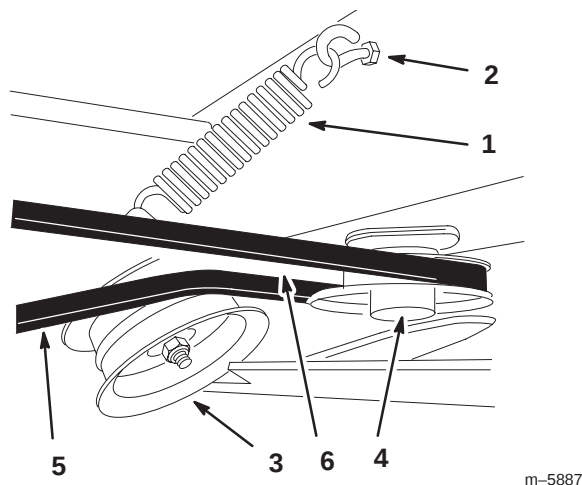

Figure 16
5. Route the bagger belt onto the bagger pulley (Figures 16 and 17).
6. Install the spring onto the idler arm (Fig. 16).
7. Install the tensioner spring onto the eyebolt attached to the bagger (Fig. 16 and 18).